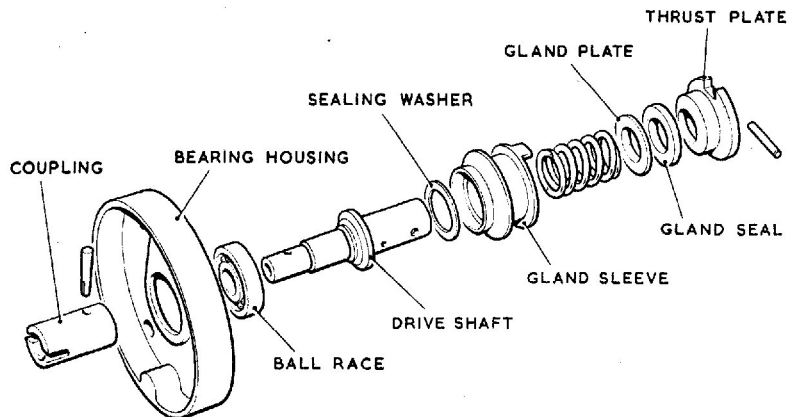

Fig. 3. Exploded view of drive shaft assembly (gland seal)
6. The drive shaft assembly, fig. 3, comprises a spring loaded gland seal and thrust plate, located on a drive shaft which is supported by a ball bearing in a housing. A gland sleeve, which houses the gland seal and thrust plate, is secured to the drive shaft with which it rotates. The thrust plate is driven by projections on the sleeve and is sealed by a carbon faced seal in the pump body. A coupling, secured to the drive shaft, transmits the drive from the motor spindle through the drive shaft to the pump driving shaft. The gland seal, spring loaded against the thrust plate, seals the annular space between the gland sleeve and the drive shaft. This spring loading also maintains contact between the thrust plate and the carbon seal.